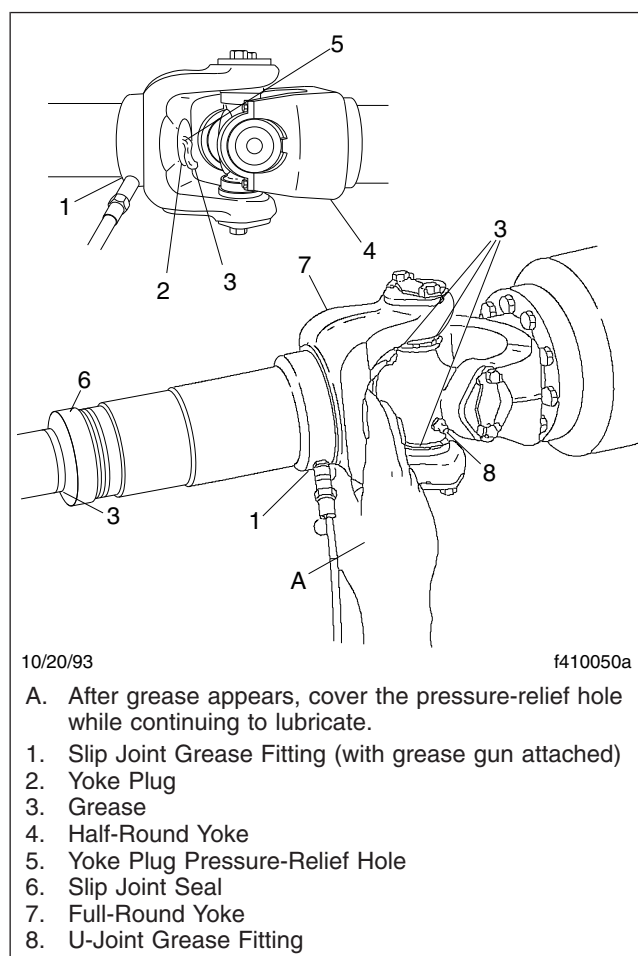

Fig. 5, Slip Joint and U-Joint Lubrication
9. For driveshafts with slip joints, check to be sure the yoke plug is not loose or missing. See **Fig. 5**, item 2. Have your Western Star dealer repair or replace the yoke plug as needed. If the yoke plug is missing, the splined shaft may be hitting the plug and knocking it out; have your Western Star dealer determine the correct driveshaft length.
2. Wipe all old grease and dirt from each U-joint grease fitting. See Fig. 5, Ref. 8.
1. If equipped with a grease fitting, wipe all old grease and dirt from the slip joint grease fitting. See Fig. 5, Ref. 1.
2. Use a hand-type grease gun or a high-pressure gun with a low-pressure adapter, to lubricate the slip joint. Add multipurpose chassis grease (lithium 12-hydroxy stearate, NLGI Grade 1 or Grade 2, with EP additives) until it appears at the pressure-relief hole in the yoke plug. Then cover the relief hole with your finger, while continuing to apply gun pressure until new grease appears at the slip joint seal. See Fig. 5. This ensures complete lubrication of the splines.